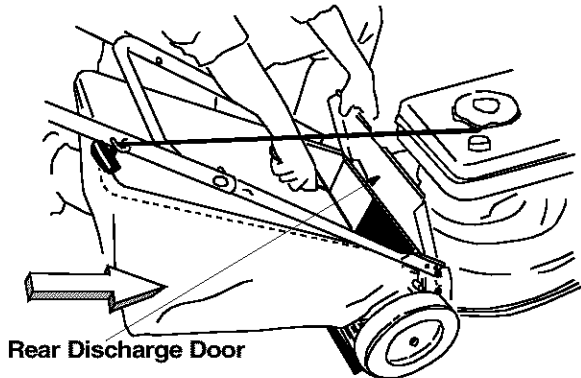

Figure 11
- Place the hooks of the grass catcher into the slots in the handle bracket assemblies on both sides. See Figure 11 . Release the rear discharge door.